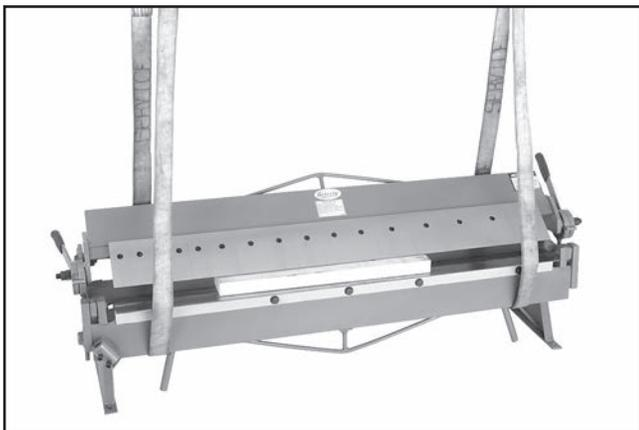

Figure 9. Example of pan & box brake supported by lifting straps and 2x4 to secure clamping leaf.
4. Secure clamping leaf by inserting a wood 2x4 between clamping leaf and bending block (see **Figure 9**).